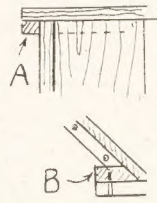

Fig. 3—Fixing methods
An alternative method of fixing, and a strong one, too, is to screw a $\frac{3}{4}$ in. square wood fillet to the ends of each side piece, and to screw or nail the barrow ends to these fillets instead of through the sides, as at (A) in Fig. 3.
Instead, a strip of wood should be screwed to each end piece of the barrow, as at (B) in Fig. 3, and the floor boards screwed to the strips, making a strong fixing, which is specially needed at this part. This completes the body work.